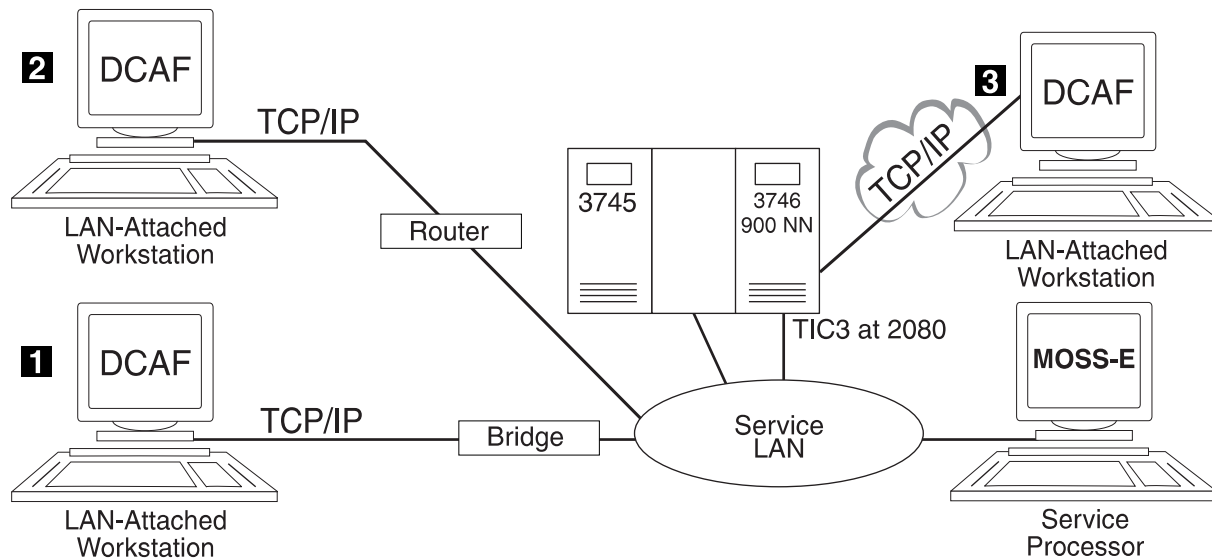

Figure 7-1. Types of TCP/IP Service LAN-Attached Remote Workstations
- A **bridge** with filtering to the service LAN (see **1** in Figure 7-1).
- A **non-3746** router (see **2** in Figure 7-1)
- The **3746** router (see **3** in Figure 7-1).
Step 5. Record the **Service Processor IP address** (this will be used in Step 7 on page 7-4). If you have a link through the 3746 (see **3** in Figure 7-1 on page 7-1), enter the **TIC3 2080** address in the **SP default router** field and click **Next** and **Close**.